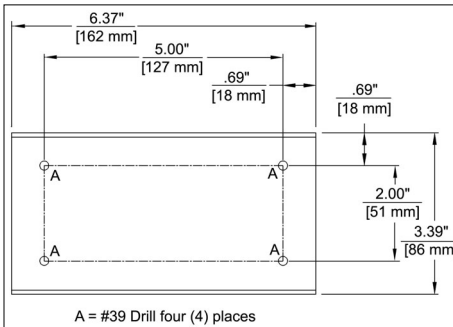

Figure 2
1. Drill four #39 pilot holes into the counter top (See Figure 2).